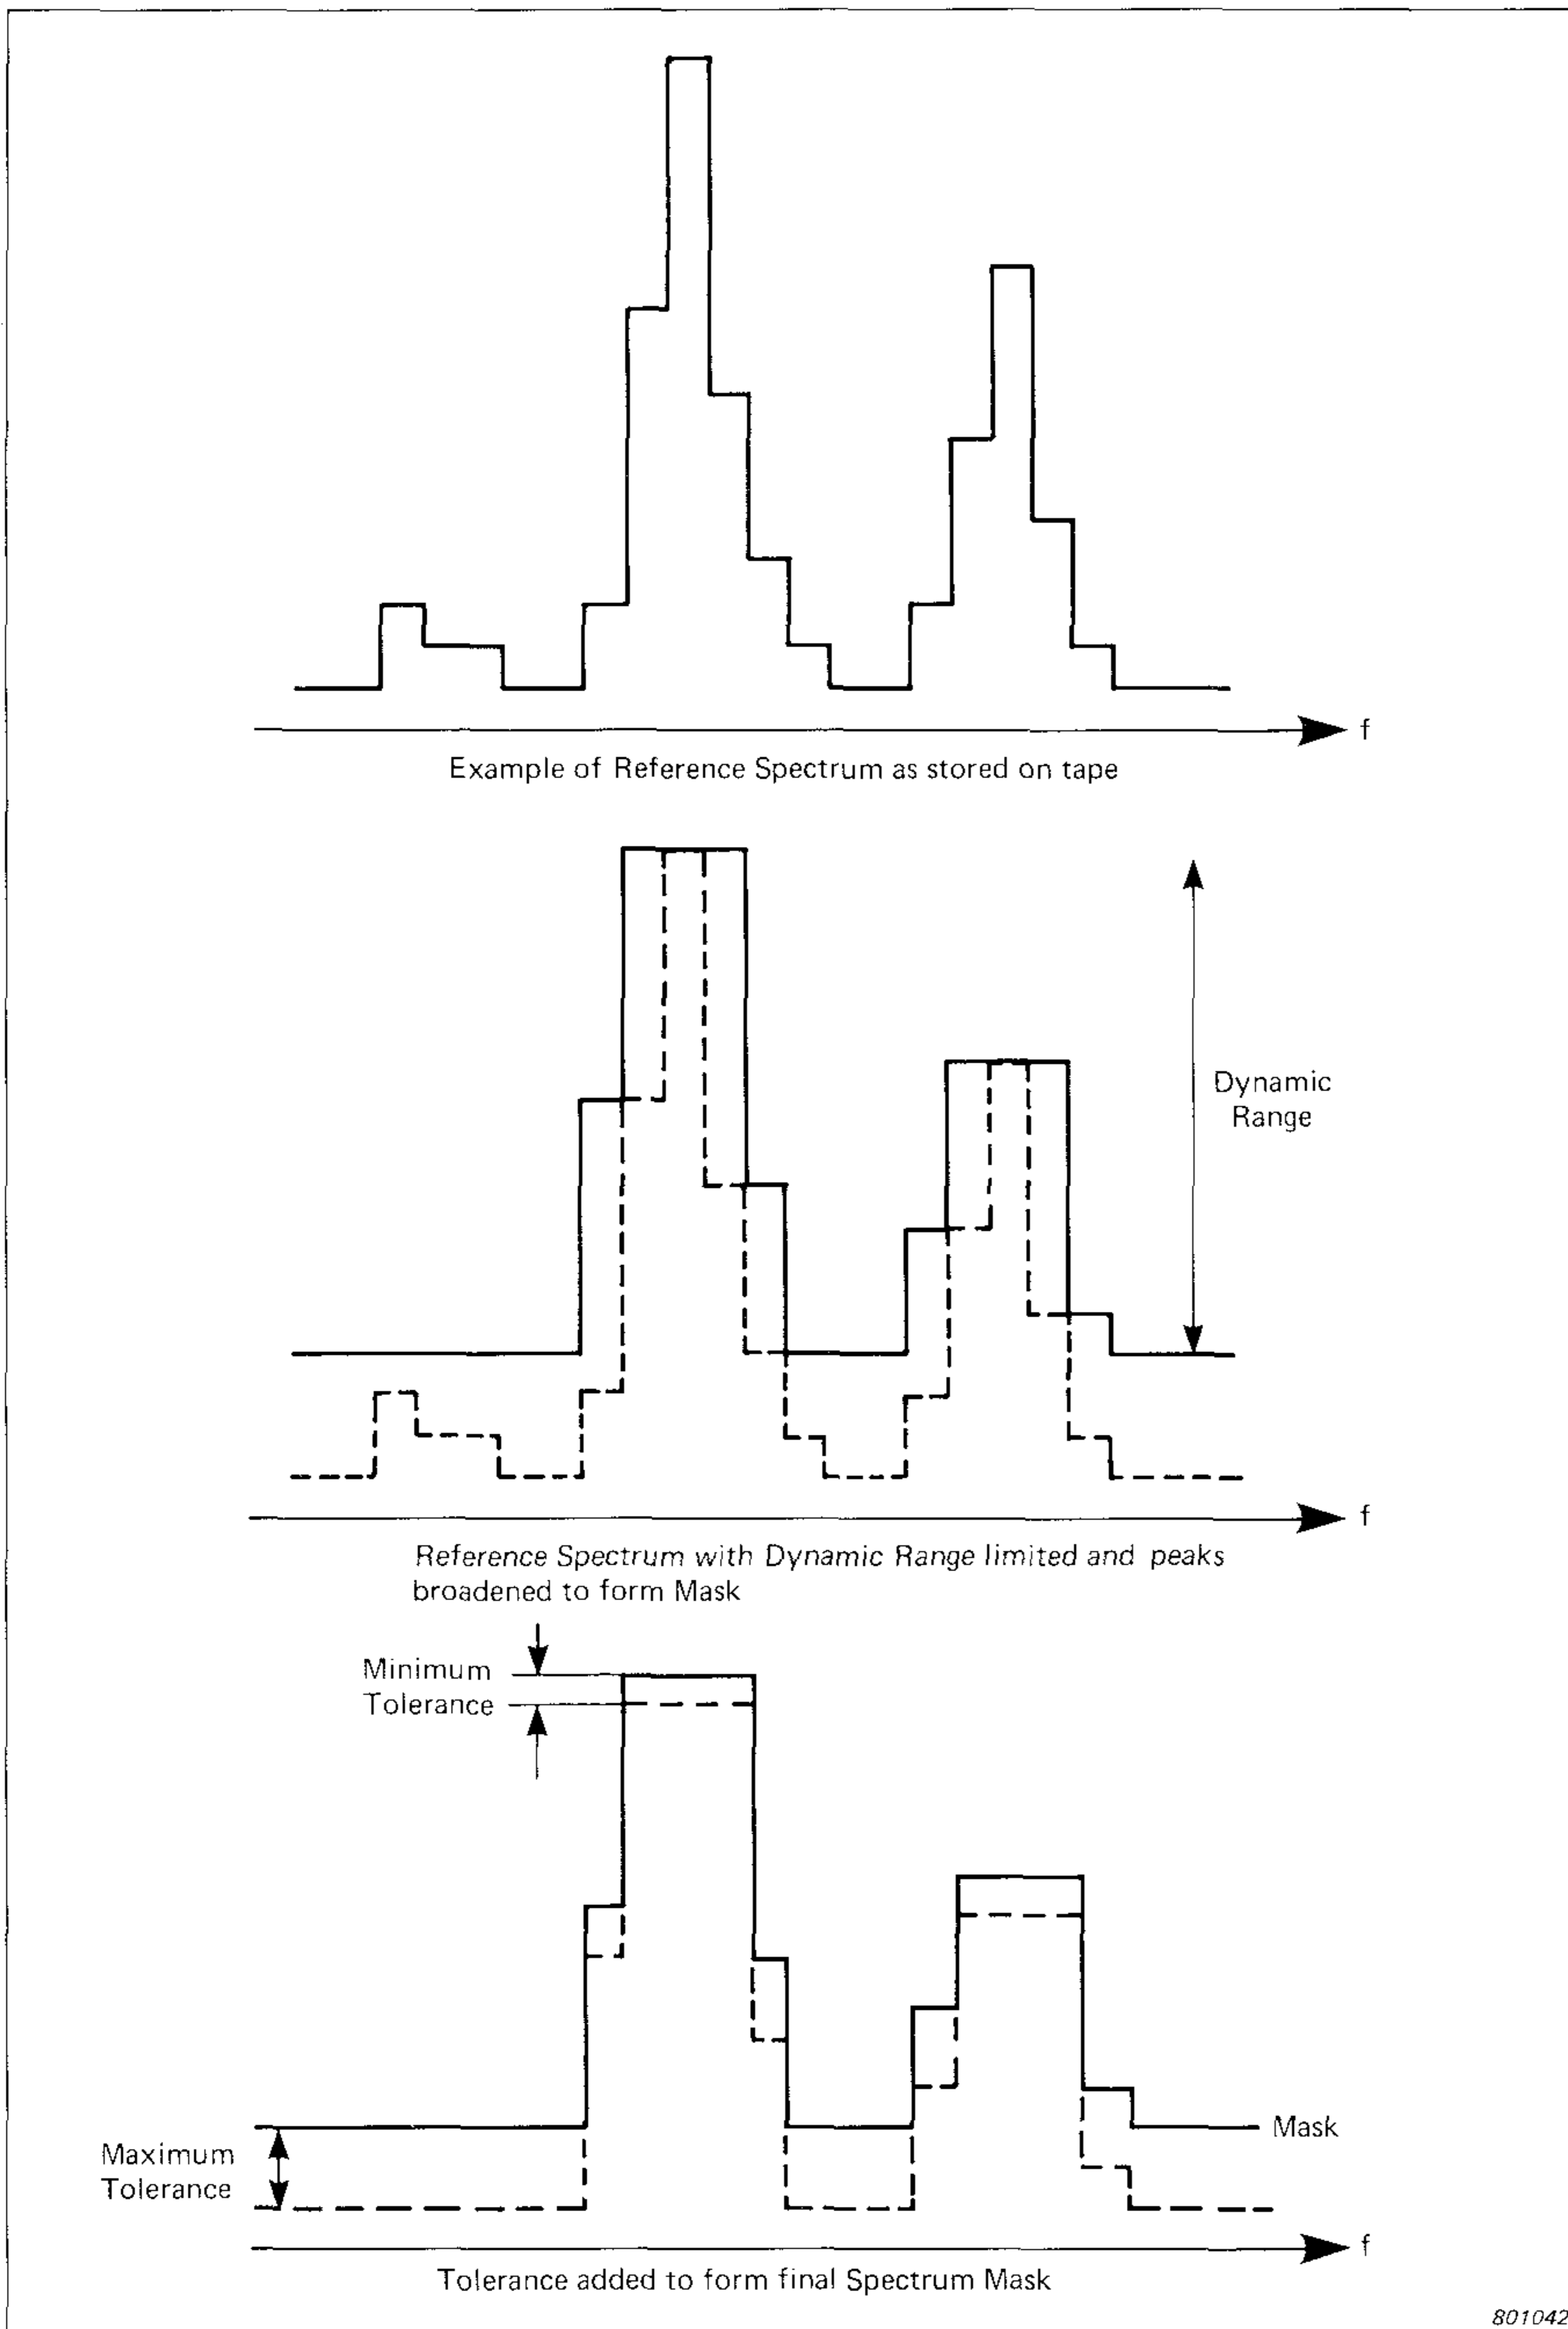

Fig.4.1. Formation of Mask from Reference Spectrum
(C) The choice of tolerance is then given, being either 'constant' or 'dynamic'. The tolerance in dB gives the allowable increase in level in each frequency band (see Fig.4.1). If frequency bands in subsequent spectra increase by an amount greater than the chosen tolerance, a fault condition will be detected in the Fault Detection program 4. With constant tolerance, the same tolerance is assumed over the whole of the dynamic range of the spectrum. The default value will be 6 dB unless changed by the Edit program 5. With dynamic tolerance, the default values are 10 dB at the lower spectrum dynamic range limit and 4 dB at the maximum level, with a linear change in tolerance between these limits. This results in a de-sensitising of the lower signal levels, which may vary more because of noise. If desired, the two parameters could be changed by selecting the Edit program 5. Note that the default value of 'dynamic range' assumed is 40 dB, but this can also be modified using the Edit program 5.
(I) A constant percentage bandwidth spectrum will then be created from the input signal and compared with a mask formed from the reference spectrum (see Fig.4.1). The results of the comparison will appear as a print-out from the calculator.
Fig.4.1 shows the formation of a spectrum mask. The spectrum envelope is formed to allow for any small remaining differences of less than one bandwidth in the spectrum caused by machine speed changes. The limited 'dy-
(J) The dynamic range of a spectrum is the difference between the level of the highest peak and the lowest level to be considered (see Fig.4.1). This is set at 40dB when a reference spectrum is created from program 0 but can then be changed by entering a new value via the calculator keyboard. This might be useful if there is a lot of noise at low signal levels, if there is some lost information due to the limited dynamic range or for low noise signals.
(K) If the tolerance value is to be edited, the choice of tolerance is then made, being either 'constant' or 'dynamic'. The tolerance in dB gives the allowable increase in level in each frequency band (see Fig.4.1). With constant tolerance, the same tolerance is assumed over the whole of the dynamic range of the spectrum. This default value is set at 6dB when the reference spectrum is created using program 0. With dynamic tolerance, the default values are 10dB at the lower spectrum dynamic range limit and 4dB at the maximum level, with a linear change in tolerance